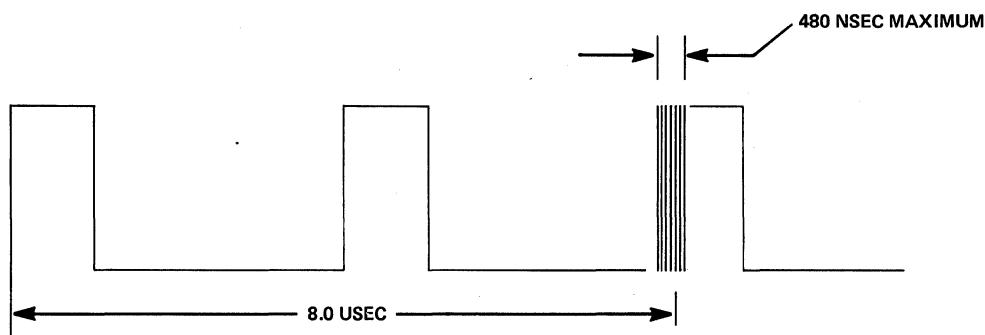

Figure 2-3
- 2.1.2.4 Observe the following pattern (see Figure 2-3).
- 2.1.2.5 Measure the amount of jitter present on the leading edge of the third pulse (see Figure 2-3). Jitter on the third pulse of greater than ± 240 nsec (480 nsec edge-to-edge) indicates excessive ISV.